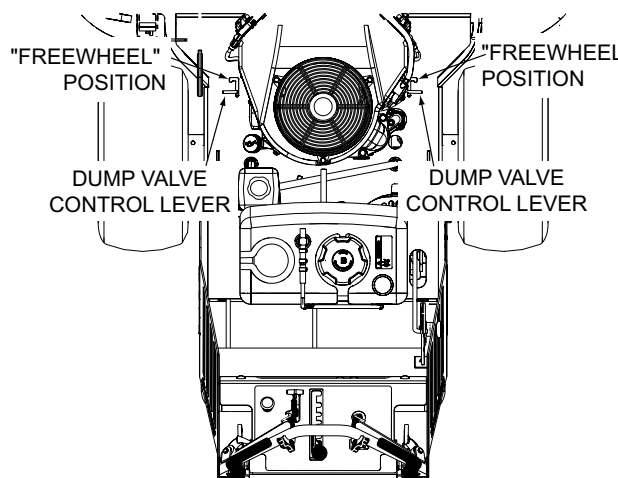

Figure 7-4. Dump Valve Control Lever
11. Move the dump valve control levers to the "freewheel" position. See Figure 7-4.
14. Move the speed control lever to the neutral position, engage the neutral latch for both sides and engage the parking brake. Move the dump valve control levers to the "drive" position. See Figure 7-4.